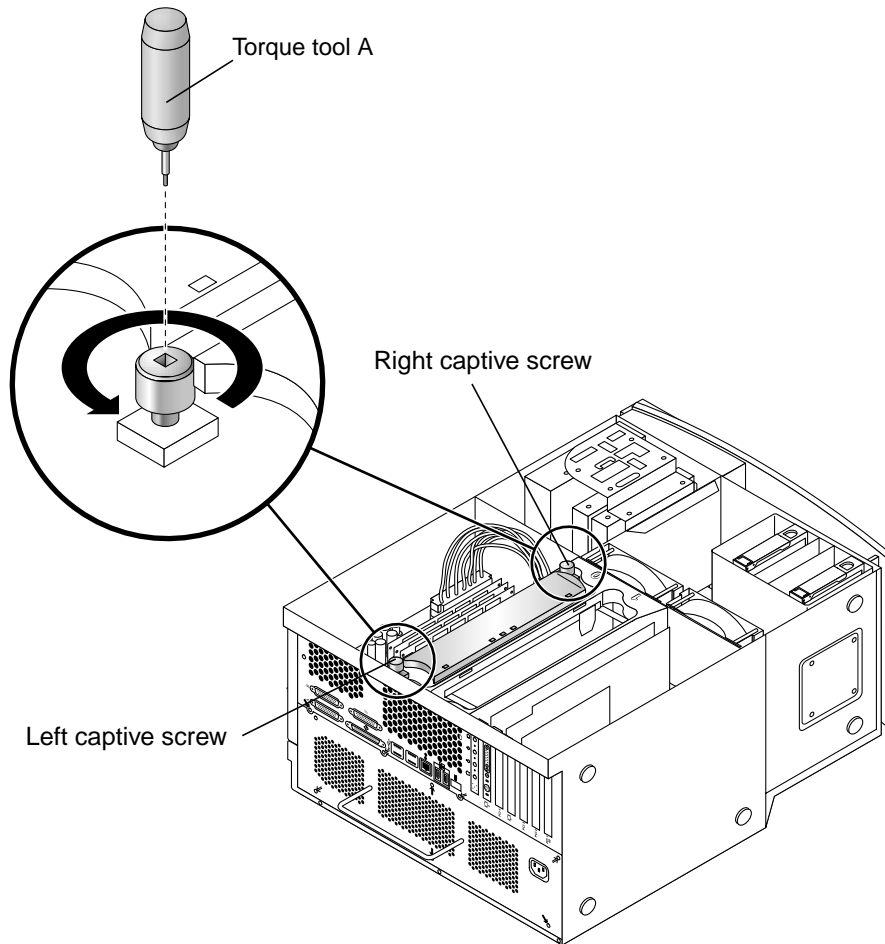

FIGURE 8-5 Using Torque Tool A to Remove a CPU Module
- a. Alternately rotate the left and right captive screws one turn counterclockwise until the screws are free of the threaded inserts (see FIGURE 8-5).**